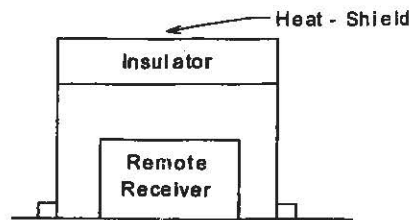

Figure 4
4. In order to prevent the Remote Receiver (fireplace installation only) from overheating, put a heat shield (option item) above the Remote Receiver. See *Figure 4*.